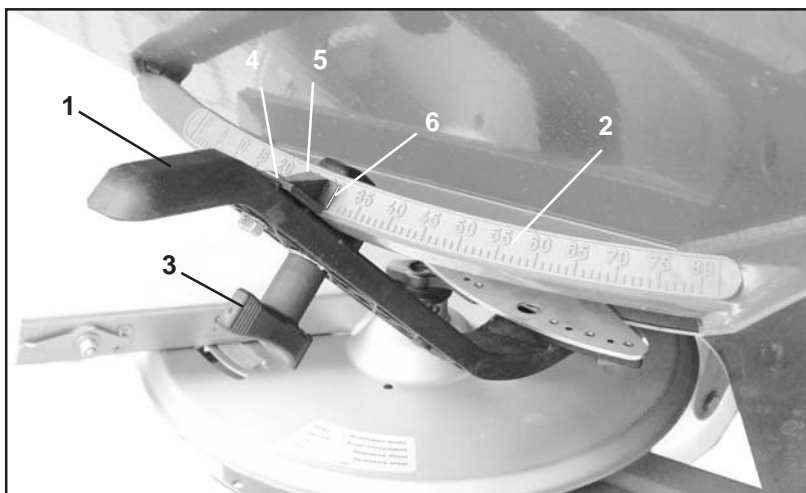

Fig. 9.4
- Open the spread rate shutter with the aid of the setting lever (Fig. 9.4/1).
- Swivel the setting lever on the scale (Fig. 9.4/2) until the stop on the pins.
- Arrest the setting lever with the star knob (Fig. 9.4/3).
- Slacken the hex. bolt (Fig. 9.4/4). Align the pointer (Fig. 9.4/5) with the scale figure „8“ and fix with the hex. bolt. The read-off edge of the pointer is Fig. 9.4/6.